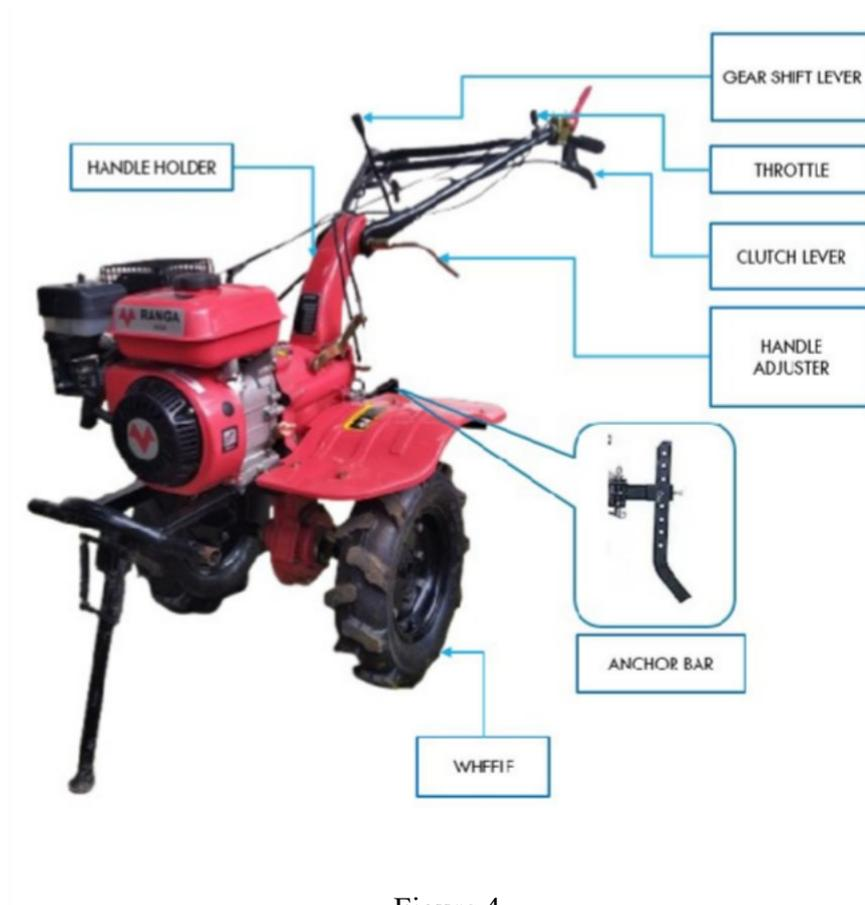

Figure 4.
I. Assembly after Unpacking (see Figure 4)